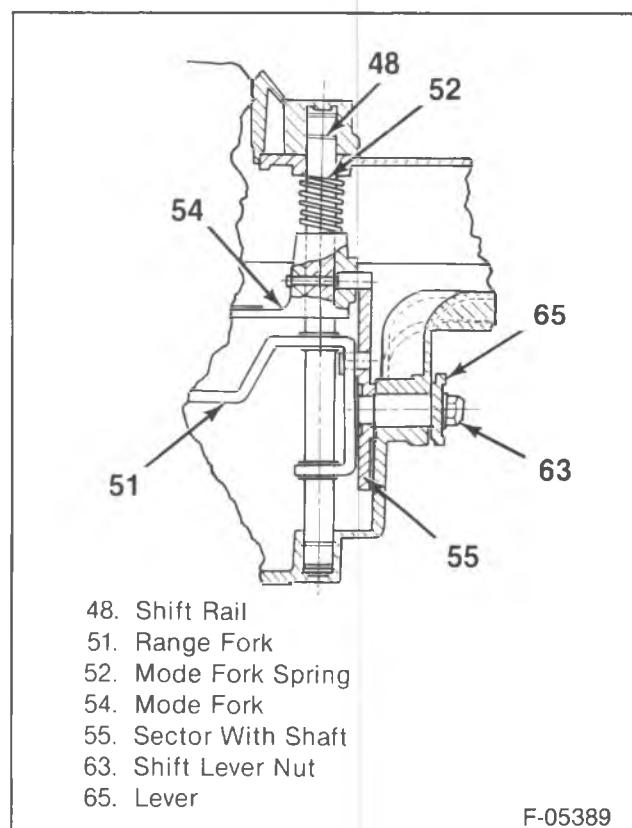
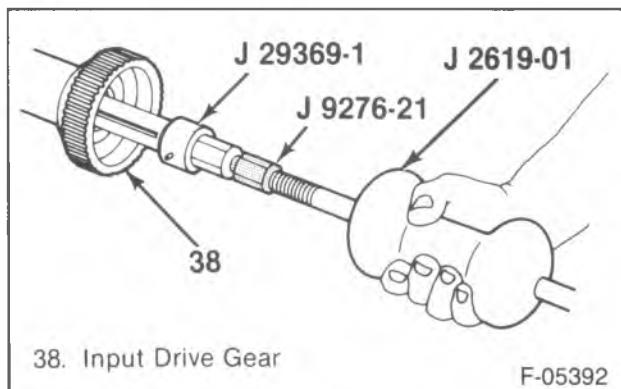

Figure 6—Shift Rail Assembly
Figure 8—Input Gear Bearing Removal
- 7. Range shift fork (51) and range shift hub (34) and sector with shaft (55) from the planetary carrier (36).
- It is necessary to rotate the sector with shaft (55) to obtain clearance when removing the range fork (51) (figure 6).
- 8. Shift lever nut (63), washer (64), shift lever (65), plastic washer (66) and the O-ring seal (67) from the front case half (45).
- 9. Input bearing retainer bolts (43) and input bearing retainer (44) from the front case half (45).
- 10. Bearing retainer (snap ring) (39).
- 11. Planetary carrier (36) and the input gear (38) from the annulus gear (62) using a soft faced hammer.
- 12. Retainer ring (snap ring) (41) from the input gear (38).
- 13. Input bearing (40) from the input gear (38) with J 22912-1 (Bearing Remover).
- Carrier lock ring (78).
- Thrust washer (37).
- 14. Drive sprocket bearing (82) from the drive sprocket (20) using J 29369-1 and J 2619-01.
- 15. Needle bearings (84) from the input gear (38) using J 29369-2, J 9276-21 and J 2619-01 (figure 8).
- 16. Front output bearing retainer ring (snap ring) (60).
- 17. Front output shaft seal (72) from the front case half (45).